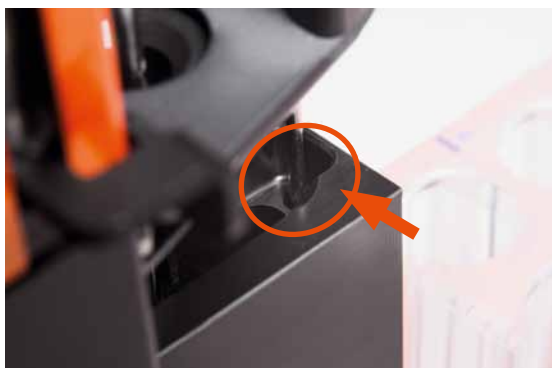

Figure 5.5: NEG needle in the washing station.
- 2 Chose either current position to start with (recommended, press **Use**) or reset needle position to factory settings (press **Reset**). The needle arm will automatically move towards the washing station. The needle should be located directly above the center of the **front opening** of the washing station (see figure 5.5).